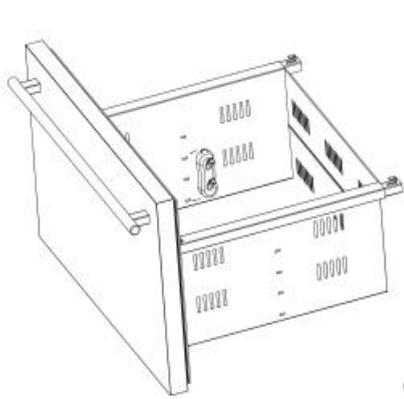

Figure 1
Étape 1: To install 1pc right and 1pc left divider permanent seat on the two side on upper drawer (figure 1) and lower drawer (figure 2)